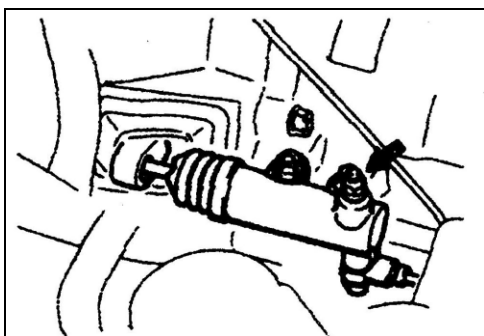

Fig.11-131
(7) If the clutch pedal free play and the distance between the clutch pedal and the clutch pedal stopper or toeboard when the clutch is disengaged do not agree with the standard values, it is probably the result of either air in the hydraulic system or a fault master cylinder, clutch cylinder or clutch. Bleed the air, or disassemble and inspect the master cylinder, clutch cylinder or clutch.
(8) Turn back the carpet, etc.
(9) Bleeding as Fig.11-131.